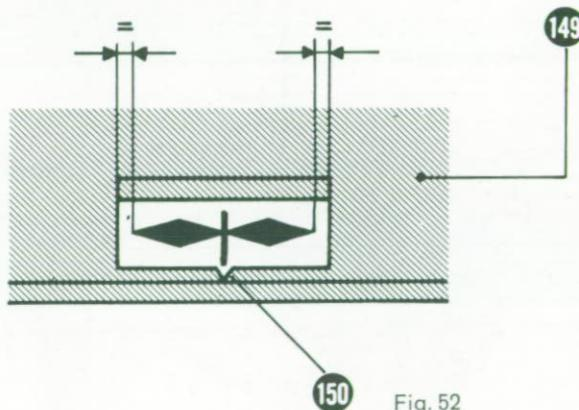

Fig. 52
lows: First set indicator scale (151). Run the machine and check whether scale symbol has same distance from both sight hole edges. (See Fig. 52). Is this not the case, loosen screw (152) and shift scale to and fro until you can set it to the position required. Scale should be pressed slightly into the direction of the cams in order to avoid touching the arm cover. Retighten screw (152). Now switch-on the ornamental stitch device - switch lever (13) to the rear - place